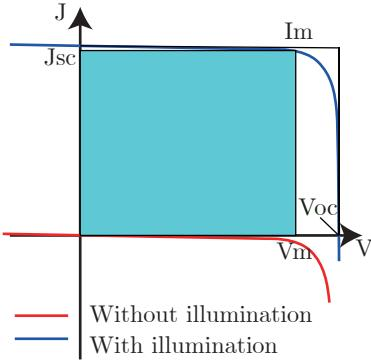

Figure 67: J-V curve for a solar cell
**Definition 4.12.** The area of rectangle in side the blue curve of figure 67 correspond to the output power of the solar cell, The cyan rectangle is the biggest possible that can be drawn. The  $J$  and  $V$  correspond to this maximum power output is  $J_M$  and  $V_M$ .